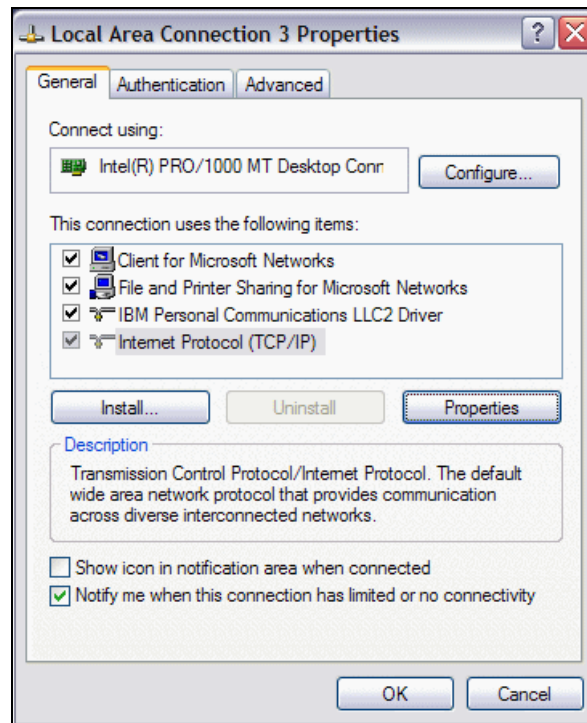

Figure 8-19 Select Protocol
4. Select **Internet Protocol (TCP/IP)**, and click **Properties**, shown in Figure 8-19.